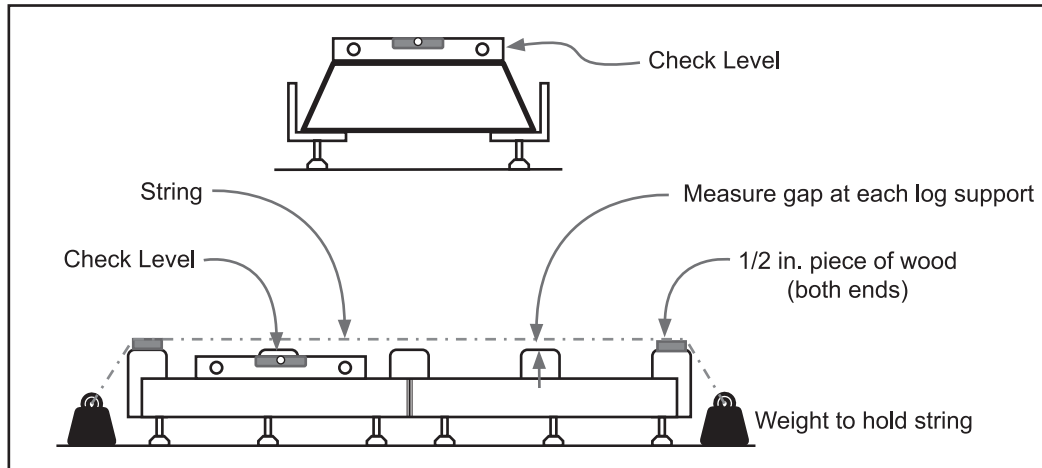

Fig. 16
Step 10: Leveling the Track. Lay a 1/2 in. thick x 3 in. wide x 30 in. long piece of wood on top of each of the two End Log Supports. Place a string-line (Fig. 16) on top of the wood and secure each end of the string-line to prevent it from moving. Use a ruler and check that each log support is 1/2 in. from the string. Use a spirit level to check the levelness, left to right, across each log support and adjust the leveling feet, as necessary while ensuring all feet are touching the ground. As a verification, check the level along each track, left and right. Repeat this process on both the left and right sides of the track until the track is level. Once the track is level, tighten the top nut on the leveling feet.